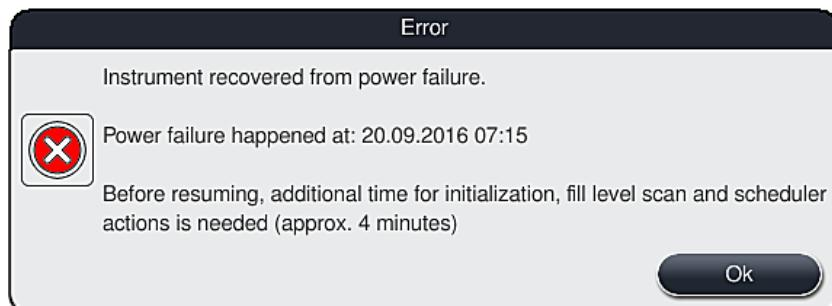

Fig. 105
- ⓘ The first message after the device restarts automatically notifies the operator of the power failure time (→ "Fig. 105"). Confirm this message by pressing the "OK" button to start the additional instructions for continuing the staining process.